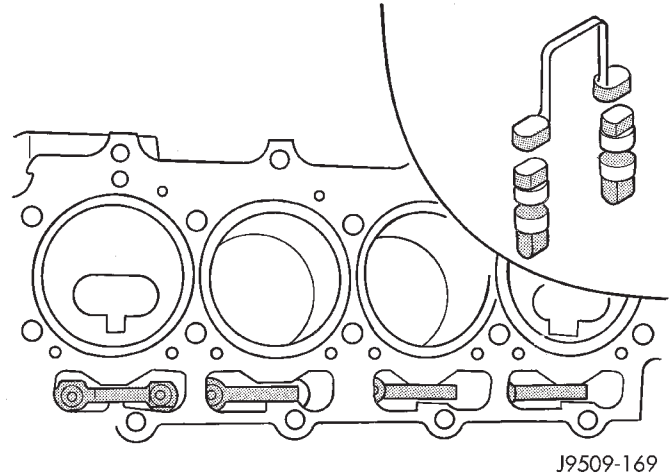

Fig. 28 Tappet And Retainer
- (1) Disconnect the negative battery cable.
- (2) Discharge the air conditioning system, if equipped. Refer to Group 24, Heating and Air Conditioning for procedure.
- (3) If equipped with air conditioning, remove the A/C lines at the compressor and cap.
- (4) Remove the A/C line bracket attached to the cylinder head cover and move the lines away from the cylinder head.
- (5) Remove cylinder head cover. Refer to cylinder head cover removal and installation procedure in this section.
- (6) Remove the rocker assemblies and push rods. Refer to rocker arms and push rod removal and installation procedure in this section. Identify push rods to ensure installation in original location.
- (7) Remove cylinder head, intake manifold, and exhaust manifold. Refer to cylinder head removal and installation in this section.
- (8) Remove the tappet retainers (Fig. 28).
- (9) Slide Hydraulic Tappet Remover/Installer Tool through opening in block and seat tool firmly in the head of tappet.
- (10) Pull the tappet out of the bore with a twisting motion. If all tappets are to be removed, identify tappets to ensure installation in original location.